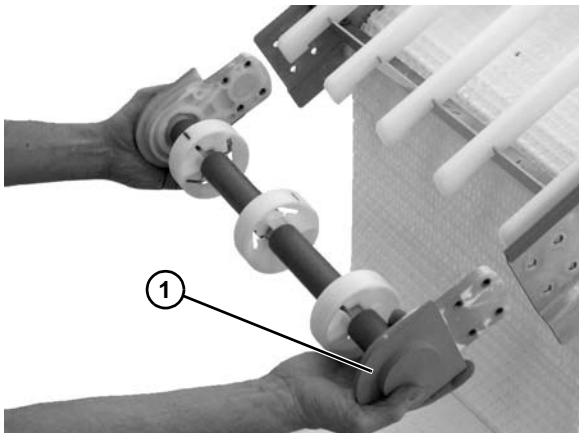

Figure 47
3. Remove idler tail assembly (Figure 47, item 1).